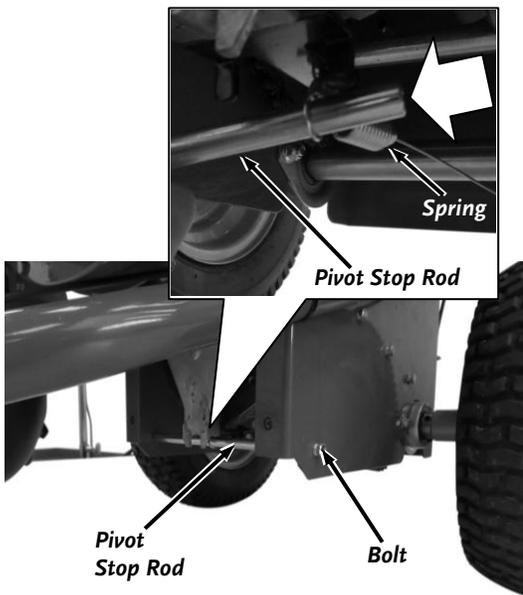
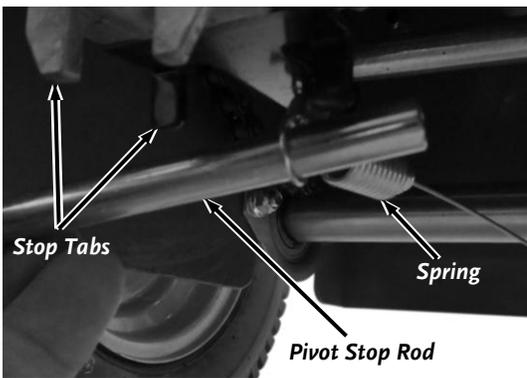

Figure 16
Figure 26
3. Remove the two Bolts that secure the Pivot Stop Rod using a 10mm Wrench and slide the Rod out of the Spring end as you remove the Rod (**Figure 16**).
5. Install the Pivot Stop Rod (**Figure 16**) ensuring that the Rod goes through the Spring at the bottom of the Drive Pulley Assembly and the Rod is between the Tabs (**Figure 26**).